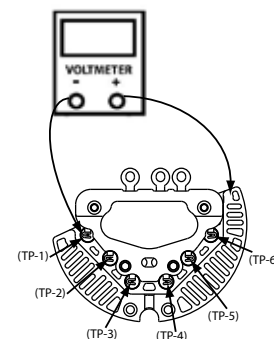

Fig 3
Step 4: Connect positive test lead (+) to rectifier heatsink and negative test lead (-) to diode post (TP-1). Move the negative test lead (-) to (TP-2), (TP-3), (TP-4), (TP-5) and (TP-6). Record readings at all six TP locations. See Fig 3.